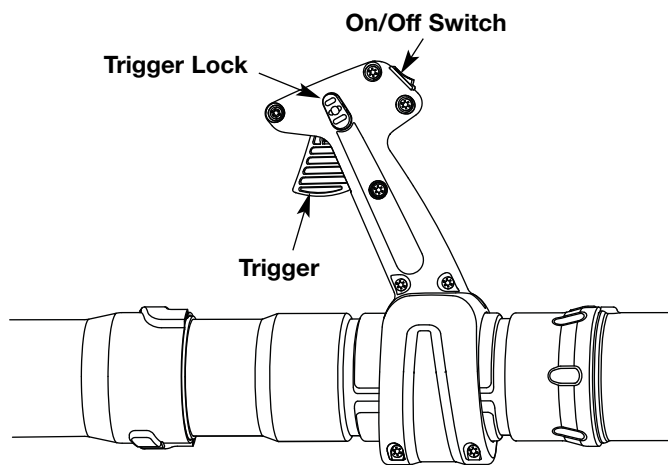

Fig. 15
NOTE: The unit should be started in idle. Do not squeeze the trigger while starting (Fig. 15).
HOT RESTART: If the unit is already hot, place the choke lever in **Position 3** and pull the starter rope to restart. **The unit should be started in idle. Do not squeeze the trigger while starting** (Fig. 15).
2. Press the On/Off Stop Control switch in the OFF (O) position and hold until the engine comes to a complete stop (Fig. 15).
- Use the trigger lock (Fig. 15) to keep the trigger depressed while operating to make continuous operation easier.